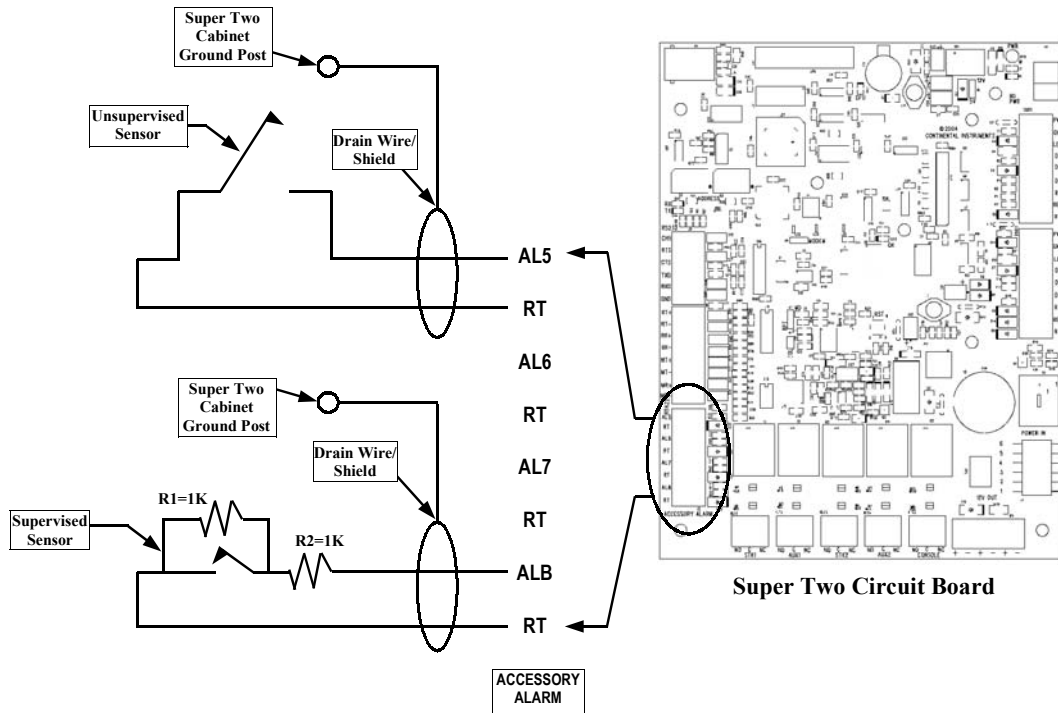

Figure 16 - ALARM Terminal Strip - Unsupervised and Supervised Alarm Connections
- 2) Install R 1 in parallel with the alarm contacts (see Figure 16).